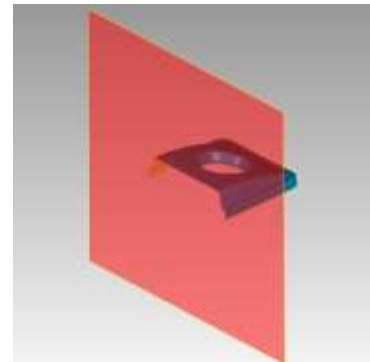

Figure 17 – Clipping Plane Visible
- Click the **Show Clipping Plane** checkbox to see the **View Clipping** plane, see **Figure 17**.